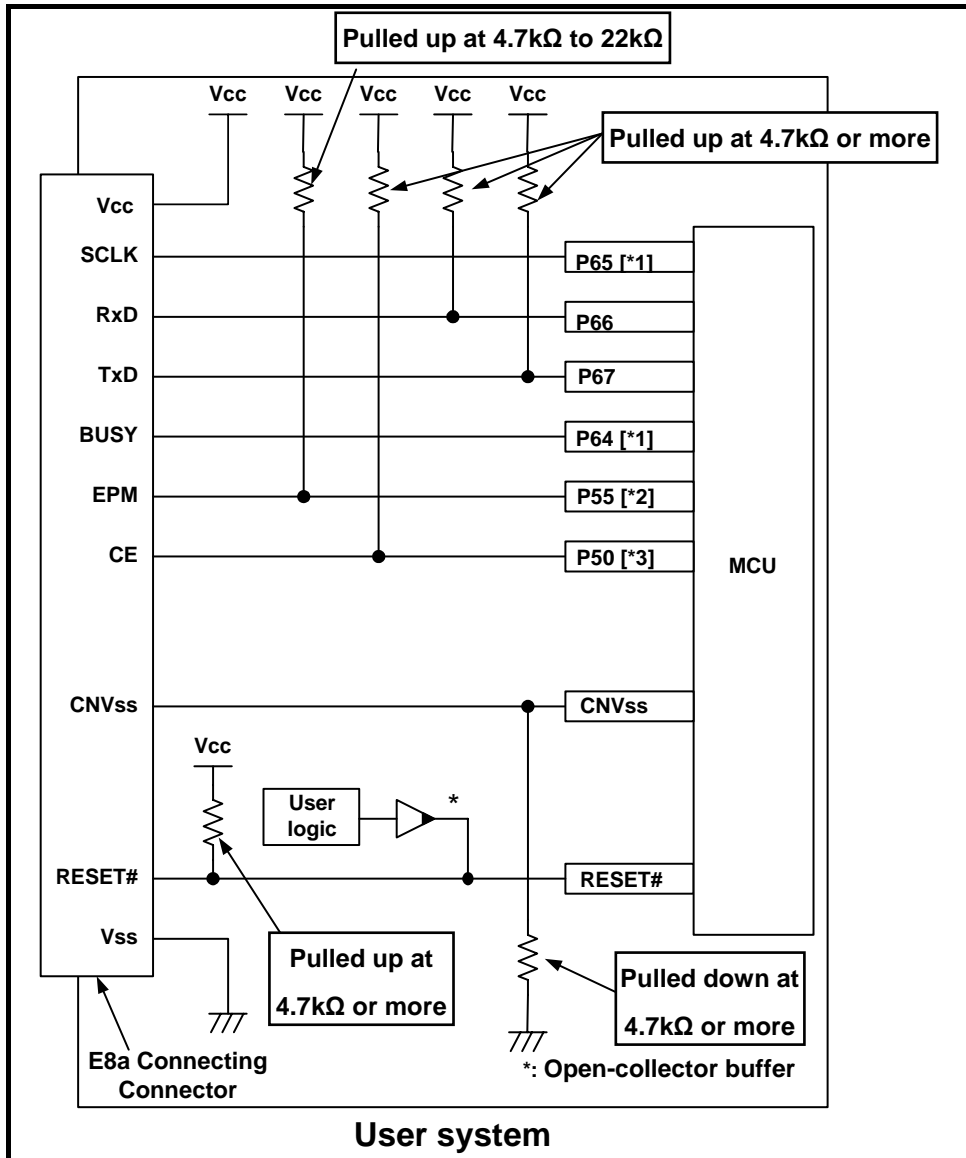

Figure 4.2 Example of an E8a Connection (Single Power Supply and Memory Expansion Mode)
- Single power supply and memory expansion mode: See Figure 4.2.